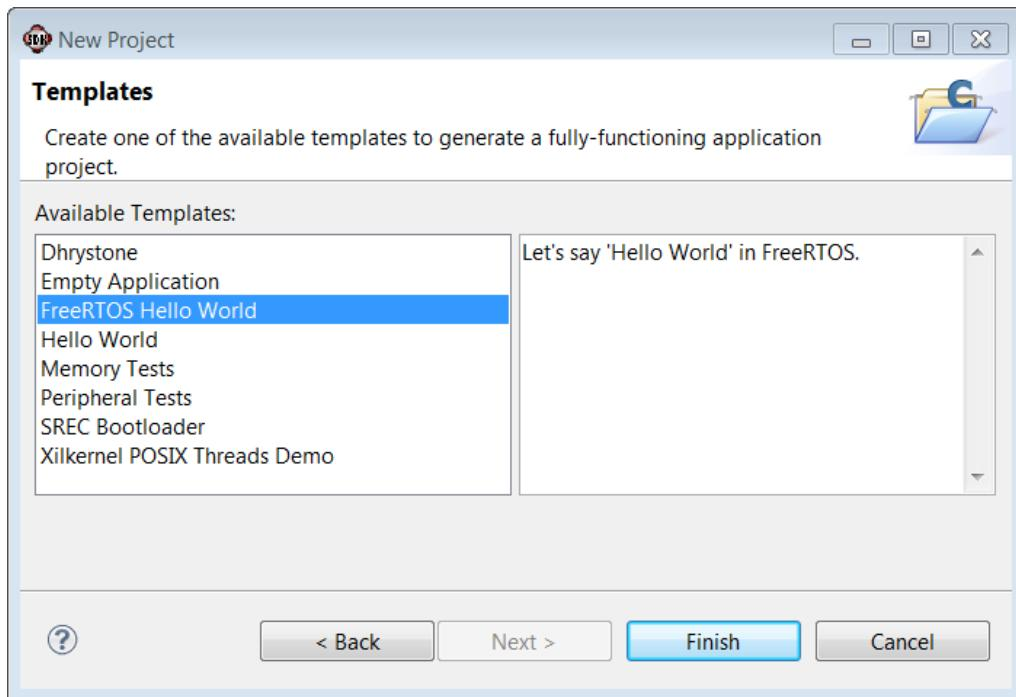

Figure 139: New Project: Template Wizard
6. Select the **FreeRTOS Hello World** application template (Figure 139).